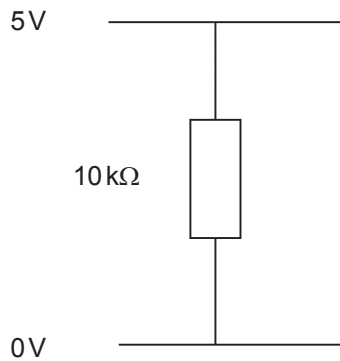
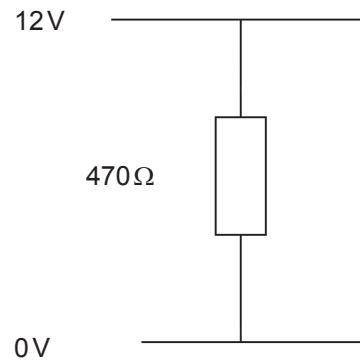

Fig. 1
Fig. 2
- (ii) Use Ohm's Law to calculate the current which goes through the resistor shown in **Fig. 1** and the resistor shown in **Fig. 2**.
Current Fig. 1 _____ [2]
Current Fig. 2 _____ [2]